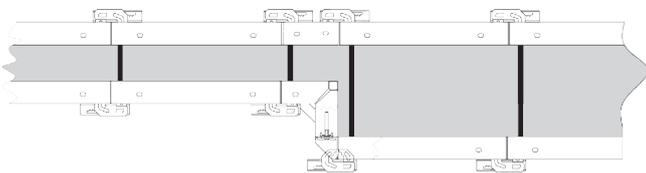

Fig. 2.11
- c) Thickness change by  $G = 30$  or  $15 \text{ cm}$  (Fig. 2.11 and 11a).